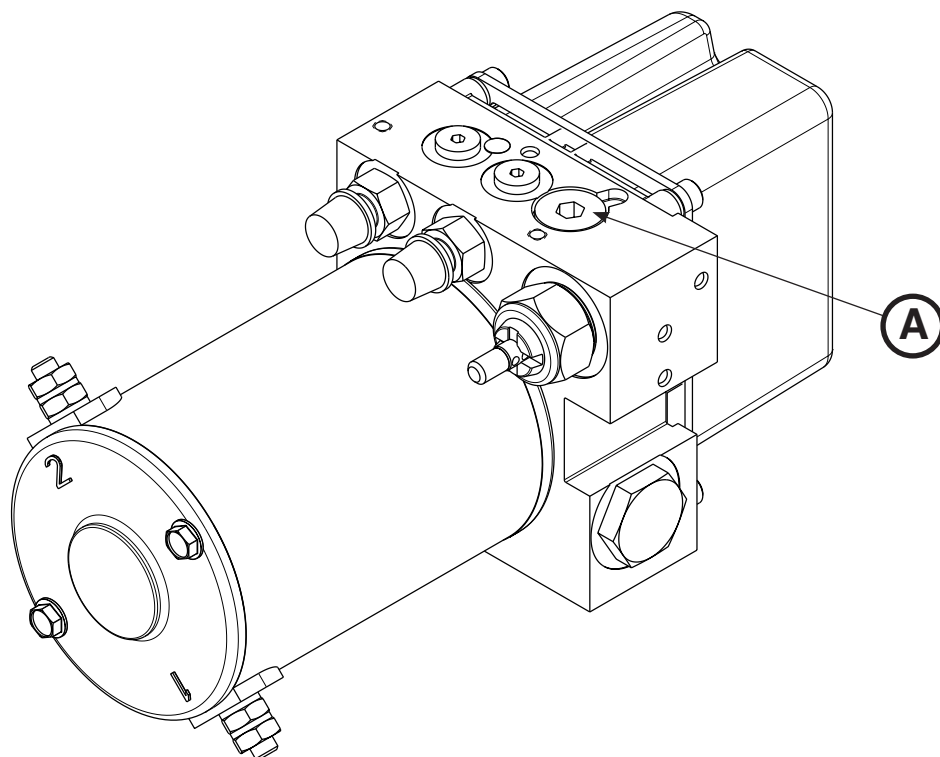

Figure 93
4. Using a 1/4" hex wrench, remove the hex plug (A) from the top of the hydraulic manifold assembly (Figure 93).